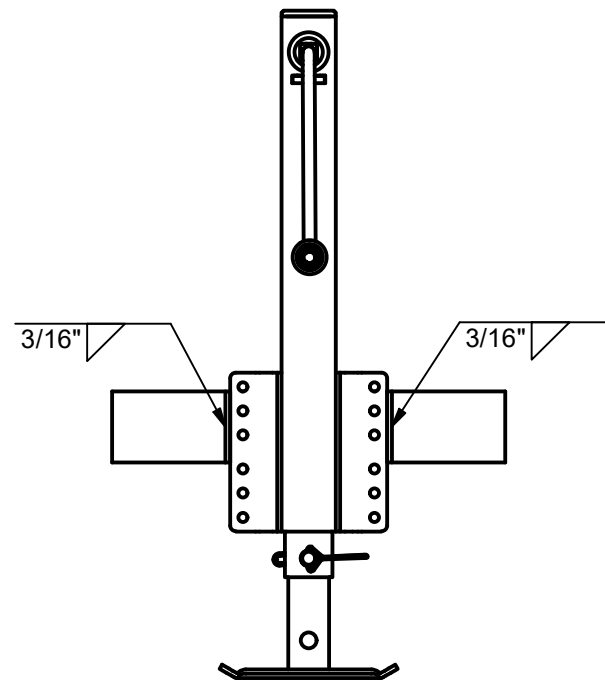

FIGURE 3: WELD ON JACK
3. Weld both sides of the jack using a 3/16" fillet weld (See Figure 3).